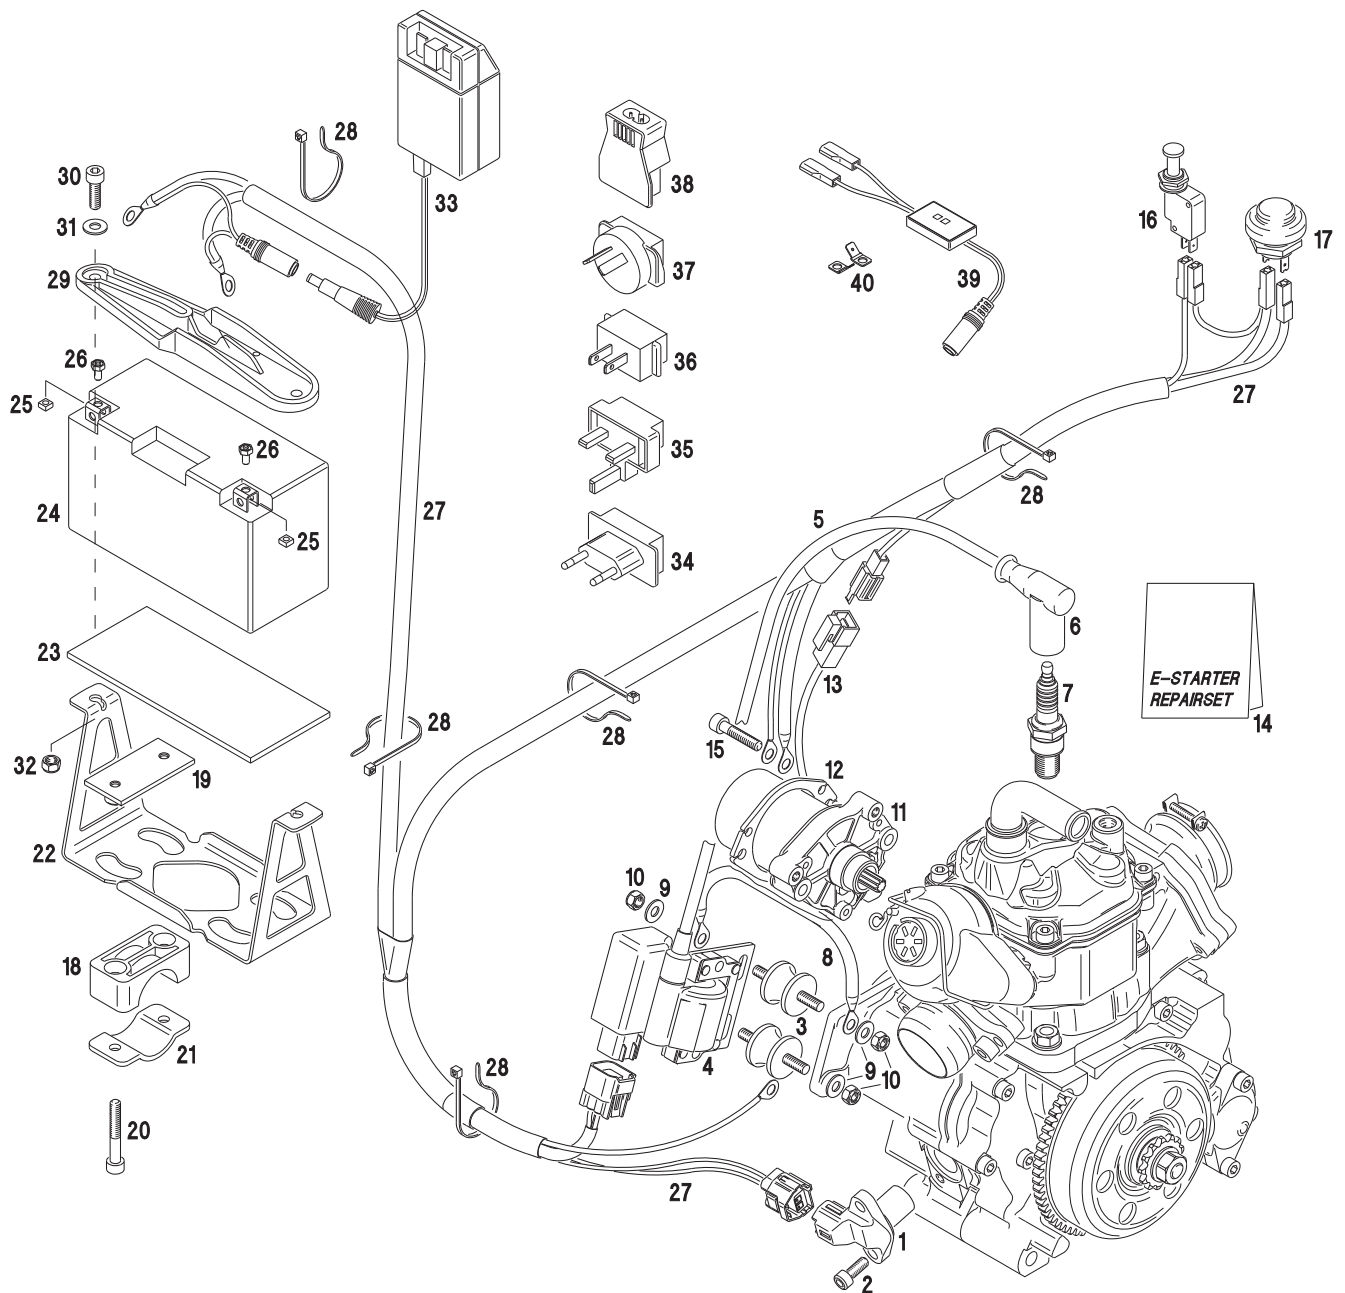

Fig. 5
For a well balanced weight distribution we recommend to locate the battery either on the left side behind the driver seat or in front of the fuel tank. For the proper attachment of the battery on the chassis ROTAX supplies a fixture kit included in the engine delivery volume (see fig. 5, pos. 20).
- ➔ Attach the battery fixture (20) with the two pipe clamps (16 – 19) on a suitable location on the chassis.
- ◆ **Note:** The clamp size (16) is planned for chassis tubes of 32 mm / 1 ¼ " dia. On tubes of a smaller dia. compensate with layers of emery paper.
- **Attention:** Do not overtighten the screw (18) of the pipe clamps (16). Risk of clamp fracture.
- ➔ Put the rubber plate (21) inside the battery fixture.
- ➔ Put the battery into the fixture (20). For connecting the battery refer to section 19.
→ Establish connections in accordance with figure 5.
- Connect the two cables of 6 mm2 / S.W.G. 11 section on start button (17).
- Connect the two cables of 2 mm2 / S.W.G. 16 section on ON/OFF circuit breaker (16).
- ➔ Attach the ignition coil as shown on illustration (fig. 5) on the reduction gear cover, utilizing the supplied attachment elements (2 x rubber mount, pos. 3,4; 4 x washer, pos. 9 and 4 x lock nut, pos. 10).
- ◆ **Note:** On the top attachment screw of the ignition coil connect also the additional grounding cable (pos. 8).
- ➔ Connect the wiring harness on the trigger coil (pos. 1).
- ➔ Connect the wiring harness on the ignition coil (pos. 4).
- ➔ Connect the wiring harness on the electric starter (pos. 11).